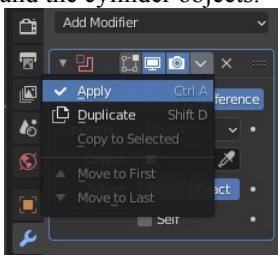

Figure 2-3 Apply is hidden in a drop-down menu.
being added after the cone has been hollowed out, it protrudes inside the cup. To fix it, drag the boolean difference modifier down below the union modifier using the area to the right of the cross (it contains eight white dots; see Figure 2-3). An option in the drop-down menu also allows you to change the order of modifiers.
- At this point, moving any of the objects would break the assembly. You can fix this by “applying” the modifiers, which effectively bakes them as a permanent change to the mesh (in Chapter 3, you’ll learn a different method to solve this problem). Select the torus, and in the modifier, choose **Apply** from the little drop-down between the camera and cross on the top line (Figure 2-3). Select the larger cone and apply first the union, then the difference modifier. Delete the smaller cone, the torus, and the cylinder objects.